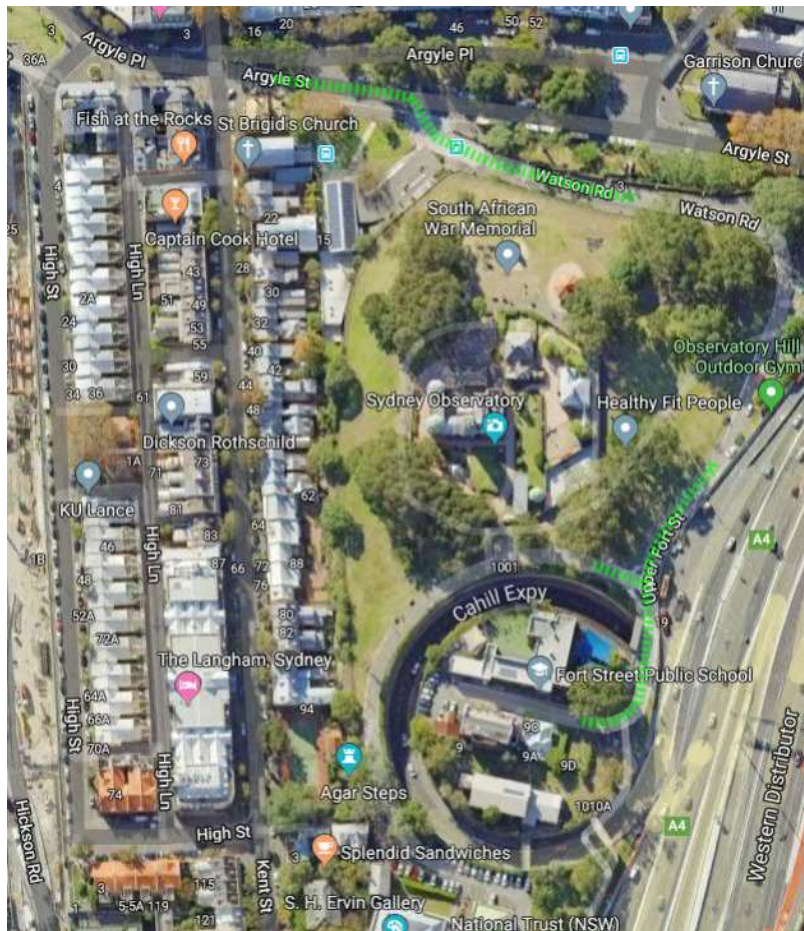

Figure 3 Swept path Analysis
- All swept paths will be regularly undertaken as per Traffic Management plan and identified in Figure 3 below;